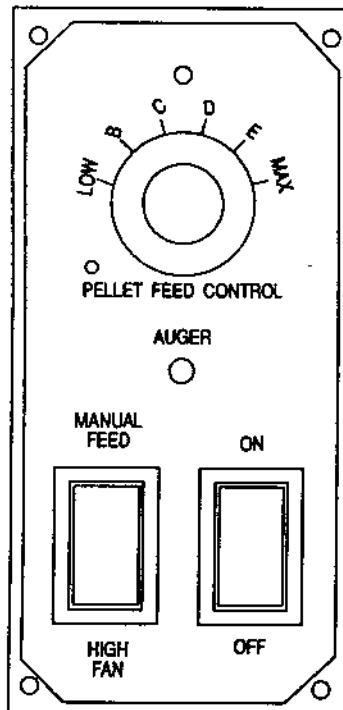

Figure 11
- c. Fill burn pot by hand or by pressing "MANUAL FEED" switch on control panel (see figure 11) fill to about half full. Add approved fire starter (see section 3.92), light and close door. Keep door tightly closed during operation.
(see figure 11)
b. Oiling — Blower manufacturers suggest oiling annually. See figure 11 for lubrication points. Use SAE 20W motor oil. Limit to one or two drops.